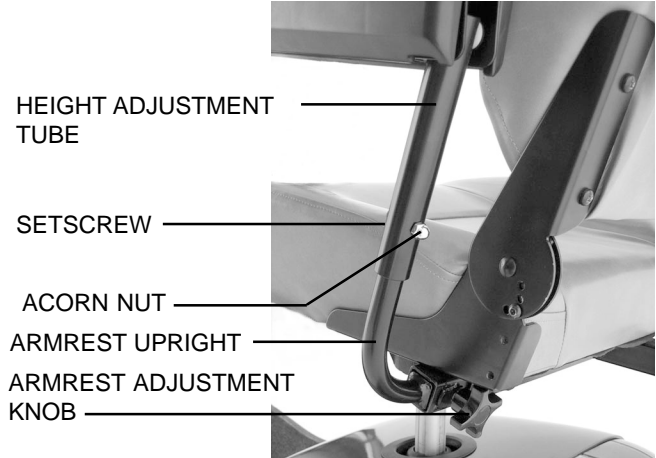

Figure 16. Armrest Height Adjustment
1. Loosen the armrest adjustment knobs at the back of the seat frame. See figure 16.
Refer to figure 16 when adjusting the armrest height.
1. Loosen the setscrew on the side of the height adjustment tube with the 1/8-in. hex key. See figure 16.